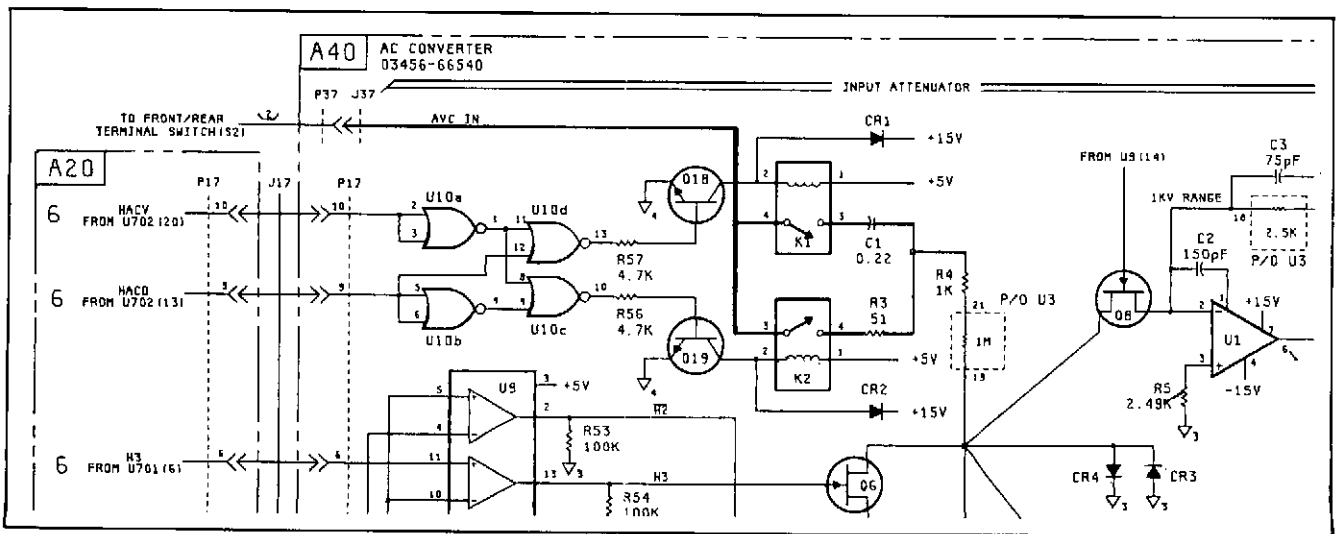

Figure 7-5. Change #8 on Schematic 7
a. Page 8-79/8-80, Figure 8-68 (Schematic 7, AC Converter Schematic). Change the Input Attenuator Circuitry of the AC Converter as shown in Figure 7-5. Note that in the change, the value of R3 is 51 ohms instead of 1K ohms.